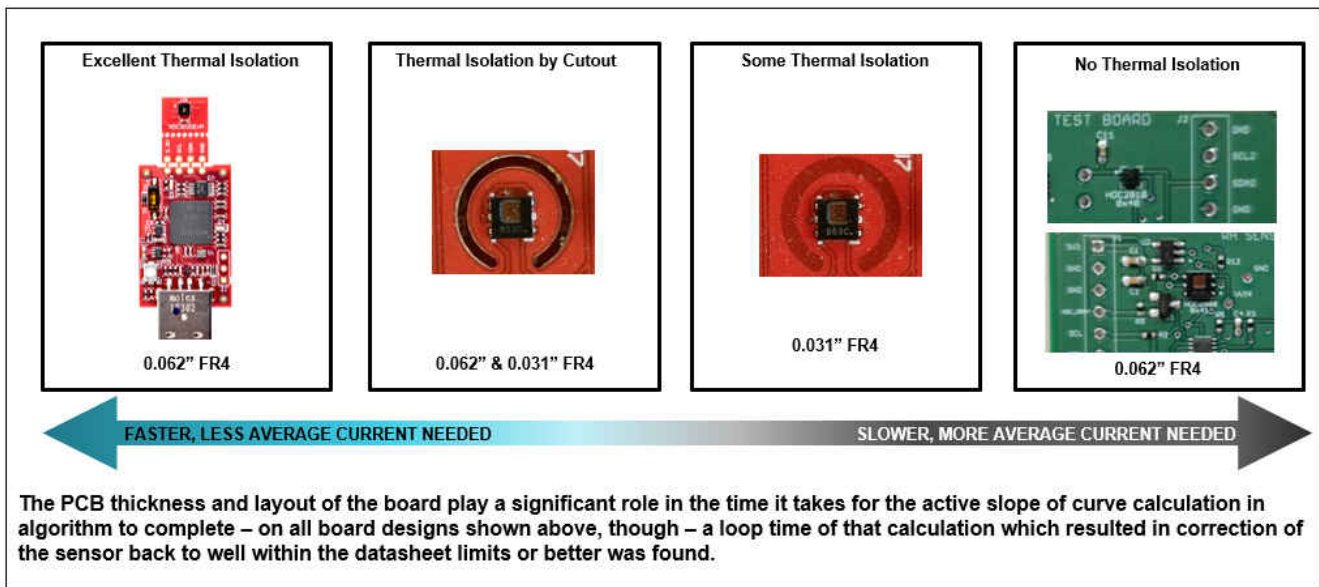

Figure 5-3. Thermal Isolation Examples
- Figure 5-3 describes the different layout considerations that can be implemented on the HDC devices. The EVM and the layout with the cutout would require lower current to execute the Drift Correction Algorithm. However, the layout that has little to no thermal isolation would require a lot more current to execute this command. The HDC3020EVM GUI offers three different power levels to run this algorithm: Min Power, Mid Power and Max Power